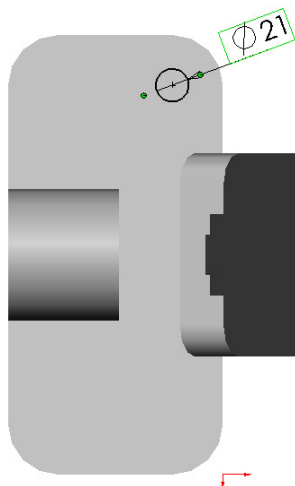

Figure 26 Base Hole Sketch
14. Select **Dimension**  on the Sketch Relation toolbar. Dimension the circle diameter to **21mm** as shown in Figure 26.